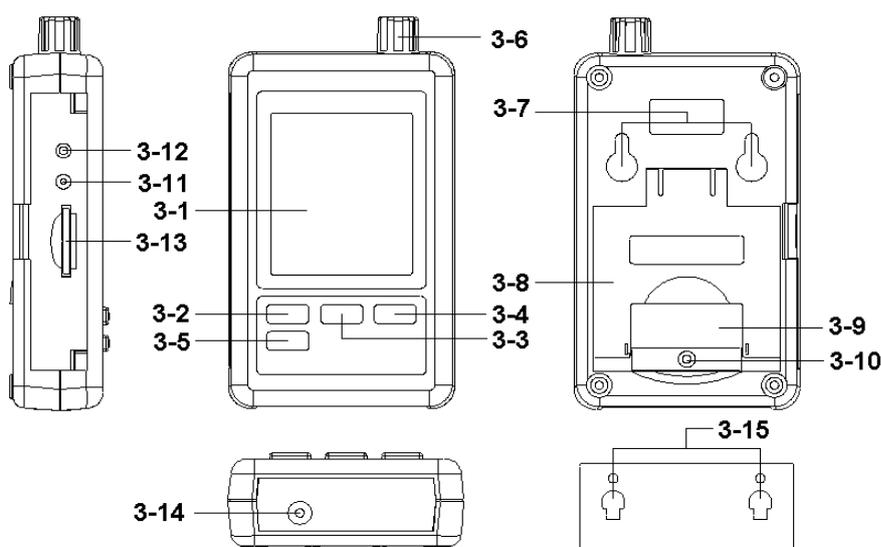

Fig. 1
- * Loose the " Screw of the battery cover " (3-10, Fig. 1) and take away the " Battery Cover " (3-9, Fig. 1) from the meter.
- 2) The " Display " (3-1, Fig. 1) will show both the Humidity, Temperature and Barometer value that sensing from Humidity/Temp./Barometer sensor " (3-6, Fig. 1).
Prepare a " SD memory card " (1 GB to 16 GB, optional), insert the SD card into the " SD card socket " (3-13, Fig. 1) with the correct direction exactly.
Press the " Logger button (3-2, Fig. 1) > 2 seconds continuously, until the Display show the indicator " DATALOGGER ", release the " Logger Button " (3-2, Fig.)
During execute the Datalogger function (Display show the " Datalogger " indicator), press the " Logger button " (3-2, Fig. 1) > 2 seconds continuously, until the Display indicator " datalogger" is disappeared, release the " Logger Button " will finish the Datalogger function.
Press " Time button " (3-3, Fig. 1) > 2 seconds continuously, the LCD display will present the time information of Year/Month/Date, Hour/Minute/Second and the sampling value.
- 1) After execute the Data Logger function, take away the SD card out from the " SD card socket " (3-13, Fig. 1).
Under do not execute the Datalogger function, press the " SET button " (3-5, Fig. 1) > 2 seconds continuously will enter the " Setting " mode., then release the " SET button ". Following press the " SET button " (3-5, Fig. 1) once a while in sequence to select the eight main function, the display will show: